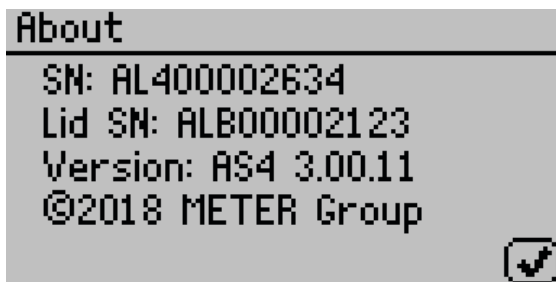

Figure 52 About screen
- **About.** Select to view instrument information including the serial number and firmware code version of the instrument (Figure 52).